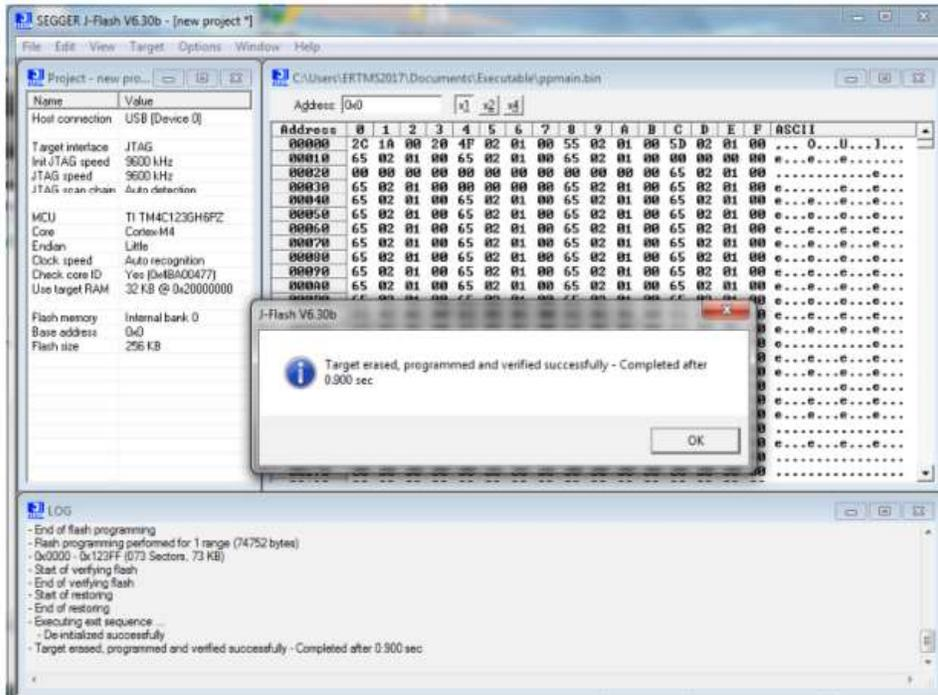

Figure 29: TIVA programmed and verified successfully [Program\_done]
15. The software is immediately loaded on the TIVA (co)processor and the message “Target erased, programmed and verified successfully – Completed after ... sec” appears. Click “OK” (Figure 29, STMA-69134);